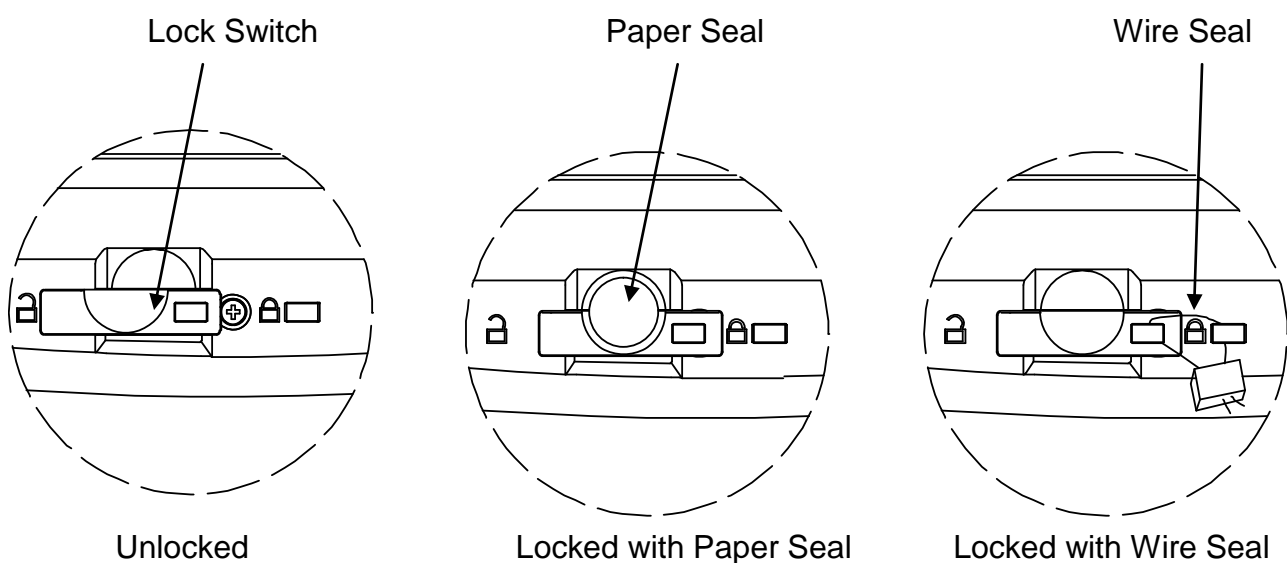

Figure 5-1. Sealing
3. Set the switch to Locked. See figure 5-1.